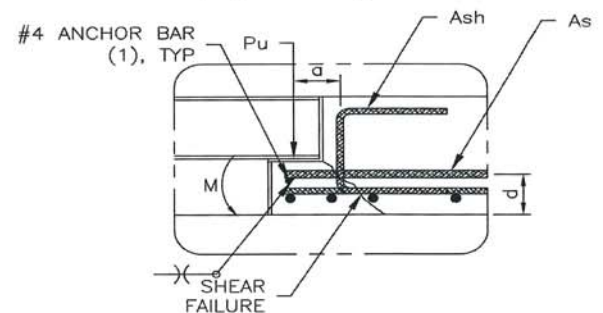

Figure 1
Slabs are typically designed without regard to any access opening. Subsequently, all bars interrupted due to the size and location of an opening are then replaced with additional reinforcing, half of which is placed either side of the opening. This practice adequately addresses the main reinforcing steel in the slab but ignores the ledge that is formed when the hatch is cast flush with the top of the slab, as shown. Our review of the details from several suppliers revealed that the design of nearly all traffic rated access hatches is such that load transfer occurs along this ledge (see Figure 1).
There are two (2) modes of failure that can result from this load. The first is flexural due to a bending moment (M) in the ledge. This force needs to be resisted by the bar labeled As (Figure 1). Since the ledge is too small to develop the As bar, either
The second failure mode is from a shear crack emanating from the inside corner of the ledge. The shear force is resisted by the Ash bar (Figure 1). This bar is placed vertically in the slab and hooked at each end for proper development.